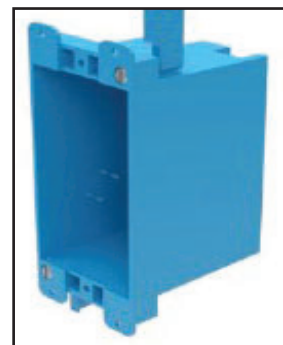

FIGURE 4 -
2. In living area (upstairs living space), install a PLASTIC RETROFIT SINGLE GANG BOX roughly 5 feet off the floor for the whole house fan wall controller to be mounted in (Refer to FIGURE 4). **DO NOT INSTALL METAL GANG BOX.** Select a location that will best sense the temperature for the living space. Do not install box in a location where the temperature will be influenced such as in direct sunlight, on an exterior wall, etc...